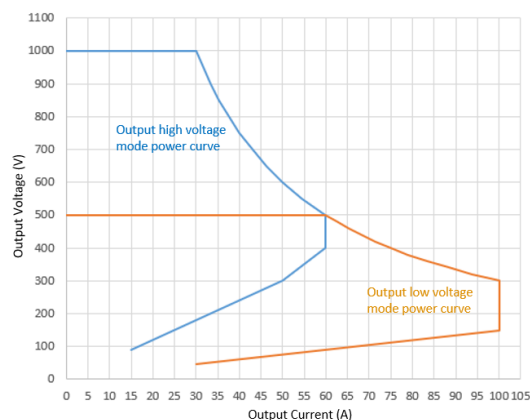

Fig.4 Output Power Curve for High Voltage Mode and Low Voltage Mode
- Output High voltage mode (HV 150Vdc – 1000Vdc), Low voltage mode (LV 150Vdc – 500Vdc) operation (Fig.4)